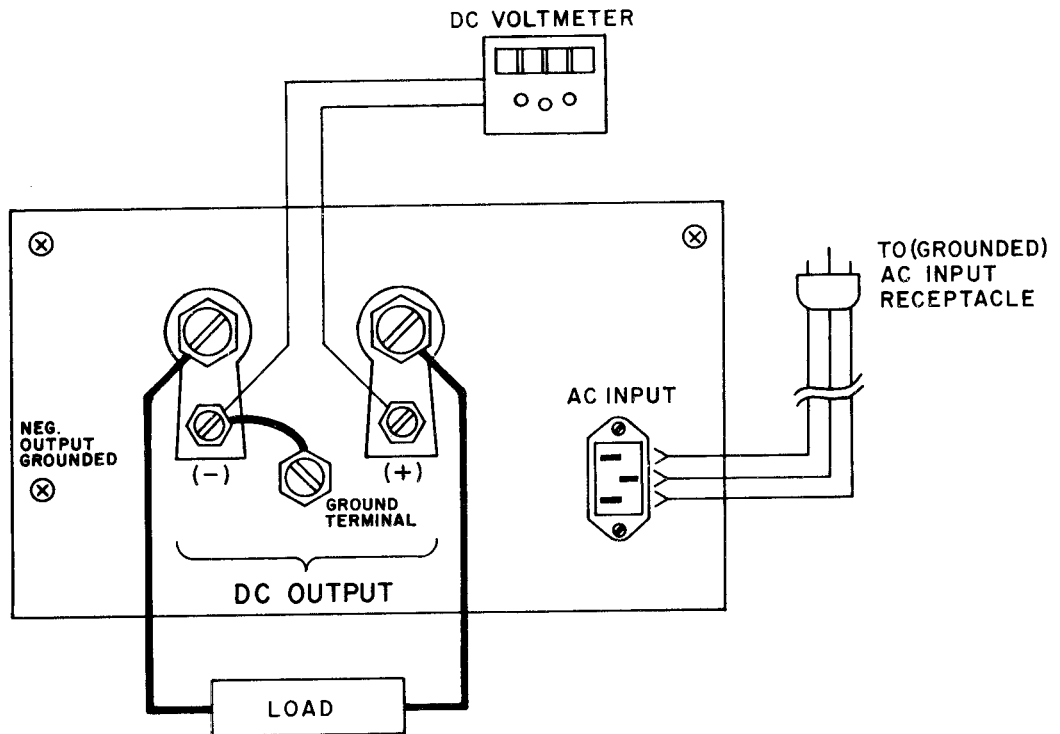

FIG 4 REAR TERMINATIONS, LOAD CONNECTIONS AND TECHNIQUE FOR MEASURING OUTPUT EFFECTS, PRR GROUP.
**REAR TERMINATIONS AND LOAD CONNECTIONS:** Figure 4 shows the rear terminations, the load connections and the techniques for measuring output effects. The load wires should be short, and as heavy as practicable.
**FOR SAFETY REASONS, THE CASE OF THIS POWER SUPPLY MUST BE GROUNDED AT ALL TIMES. AUTOMATIC SAFETY GROUNDING IS ACHIEVED BY USE OF THE PROVIDED 3-WIRE LINE CORD AND A SECURELY GROUNDED A-C OUTLET. IF A GROUNDED A-C OUTLET IS NOT AVAILABLE, THE CASE OF THE PRR MUST BE GROUNDED WITH A SEPARATE WIRE FROM THE PROVIDED GROUND TERMINAL ON THE PRR (SEE FIG. 4) TO A RELIABLE GROUND.**
**GROUNDING (Signal):** For minimum ripple and noise, the PRR output/load circuit should be signal grounded as shown in FIG. 4. **Either** side of the output may be grounded, directly at the output terminals of the PRR as shown in FIG. 4, or at the load. If the PRR output must be operated without a ground (floating), capacitive grounding may be employed if necessary.
**OUTPUT EFFECT MEASUREMENTS:** The output specifications of the PRR may be verified by connecting a suitable voltmeter to the output terminals in FIG. 4, and varying the a-c power line (Source Effect measurement) and the load (Load Effect measurement) over the specified ranges. The meter connection shown in FIG. 4 minimizes voltage drops due to current flow and thus provides correct test results. Ripple specifications may be verified by connecting a suitable rms reading voltmeter in place of the d-c voltmeter.